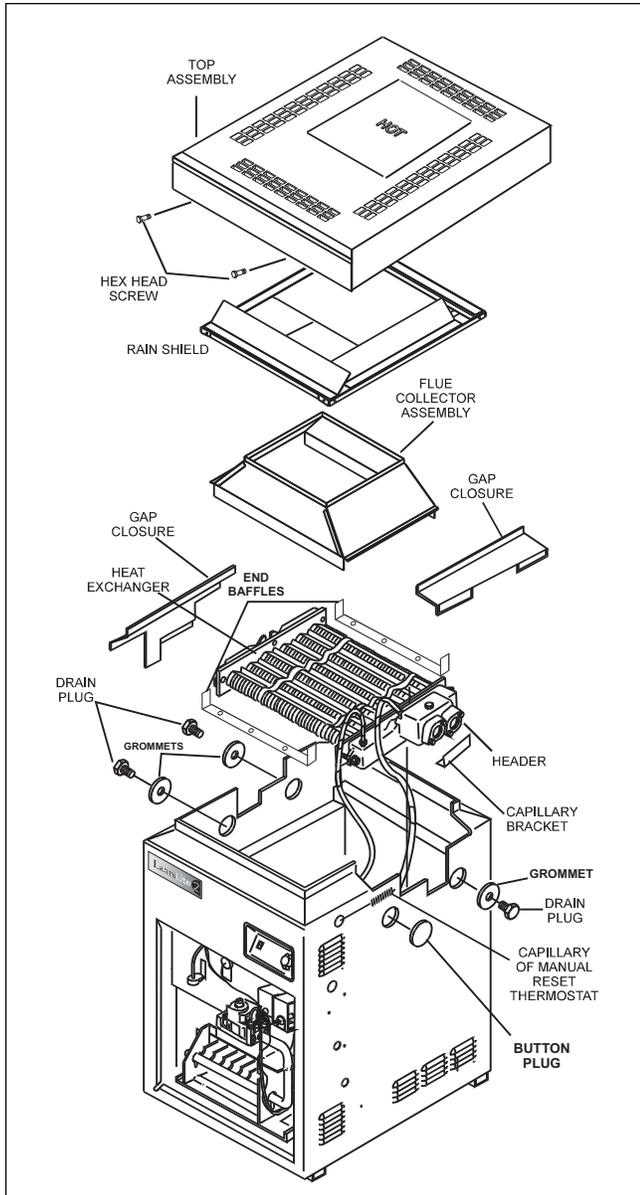

Figure 2. Heat exchanger reversal.
3. Remove all hex-head screws fastening the top and lift the top assembly straight up (see Figure 2).
6. Remove bracket under the front header, which holds capillary of the manual reset thermostat (see Figure 2).
9. Remove the three jacket/plug grommets and drain plugs (see Figure 2). One is located under the water connections on the right side of the heater. The other two are on the left side of the heater. Gently pry the button plug from the heater jacket located on the right side of the heater.
10. Tag and disconnect the white wire on the pressure switch (PS) and the white wire at the terminal block.